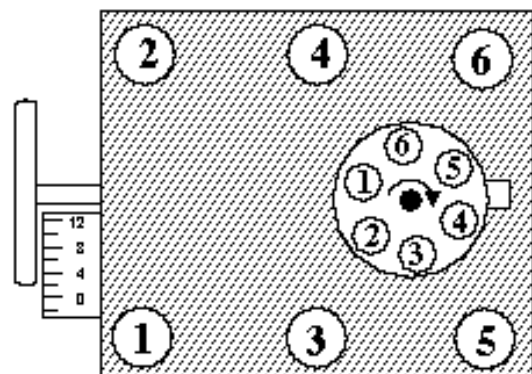

Figure 2— Firing Order—1-6-5-4-3-2
1. Turn the engine over in direction of rotation until the No. 1 intake valve closes and continue until the pointer on the front cover is approximately five degrees before top dead center (BTDC). See Figure 2 for firing order.